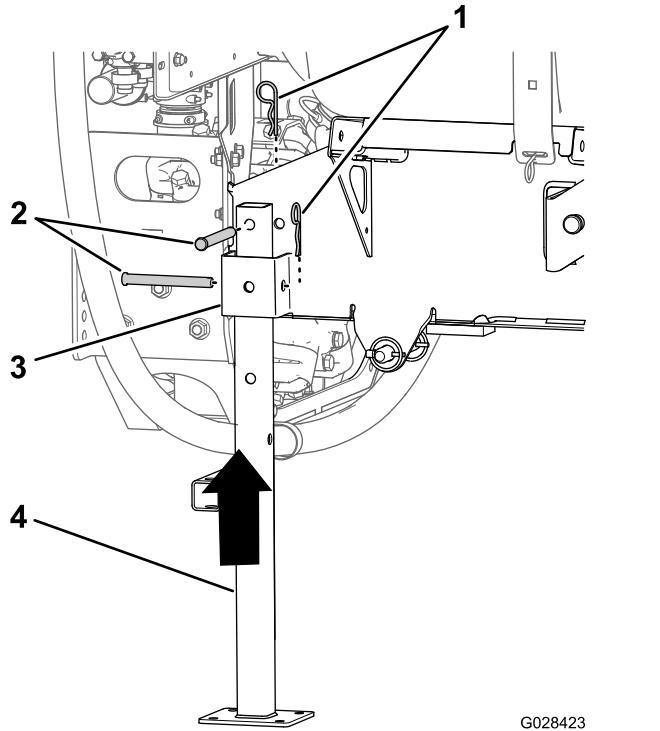

Figure 134
5. Align the rear jackstand with the rear jackstand receiver (Figure 134).
6. Align the hole in the top of the jackstand with the hole in the frame of the tank skid (Figure 134)
7. Secure the jackstand to the receiver and the frame with 2 clevis pins (1/2 x 4-1/2 inches) and 2 hairpins (5/32 x 2-5/8 inches) as shown in Figure 134.